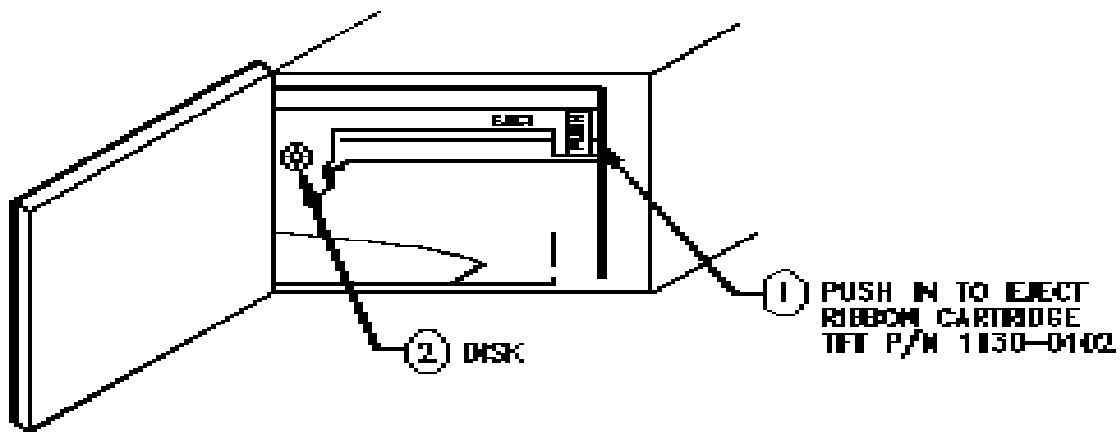

Figure 10.4-3. Ribbon Cartridge Replacement
Carefully press the door and bracket in vertically opposite directions until the latch is released. Do not pull the door and bracket apart without first releasing the catch. See figure 10.2 item (3). Swing the chassis back leaving the door fully open. This will expose the printer mechanism and ink ribbon cartridge. Refer to figure 10.4-3.
- (1) Press in on the end of the ink ribbon cartridge marked "PUSH", and carefully remove the used cartridge. Push replacement cartridge in place, ensuring that the paper lies between the ribbon and the steel printer plate, and the ribbon cartridge spindle is correctly seated over the printer ribbon drive shaft. Ensure that the ribbon is taut and parallel to the paper. If necessary, tighten the ribbon by turning the faceted disk (2) clockwise using your fingernail or small blade screwdriver. Make sure the paper protrudes through the front of the printer mechanism. Ensure that the paper will pass clearly through the guide channel and past the tear bar before snapping the bracket shut against the back of the door.